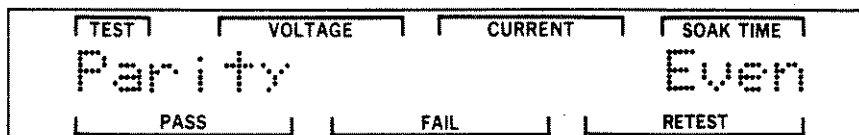

Figure 7-46. Parity Screen
STEP 12. Press the DOWN pushbutton once to display the Parity screen. Figure 7-46 is an example of this screen.